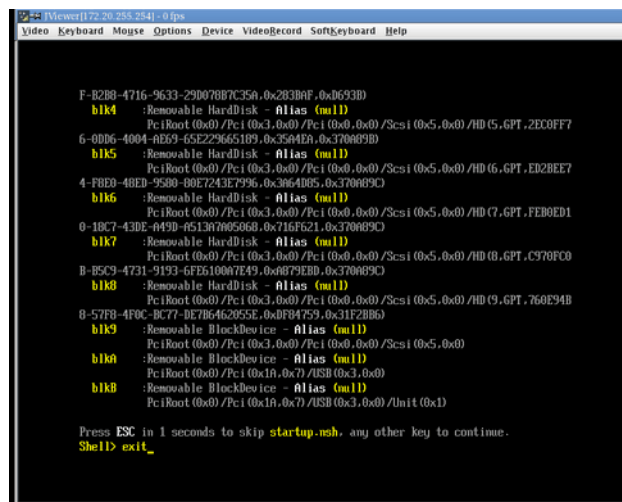

Figure 3-17 KVM JViewer Shell Prompt Screen
3. When the system gets to the EFI prompt, enter `exit` to get to the BIOS setup screen, as shown in Figure 3-17 on page 57.